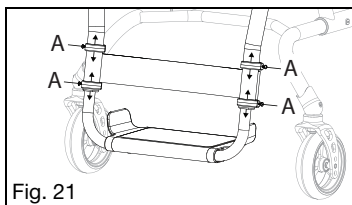

Fig. 21
1. Loosen the four screws (Fig. 21:A) on the calf strap mount with a Philips screwdriver.
2. Move the calf strap mount up or down to the desired height and secure the strap in place by retightening the four screws (Fig. 21:A) with a Philips screwdriver.